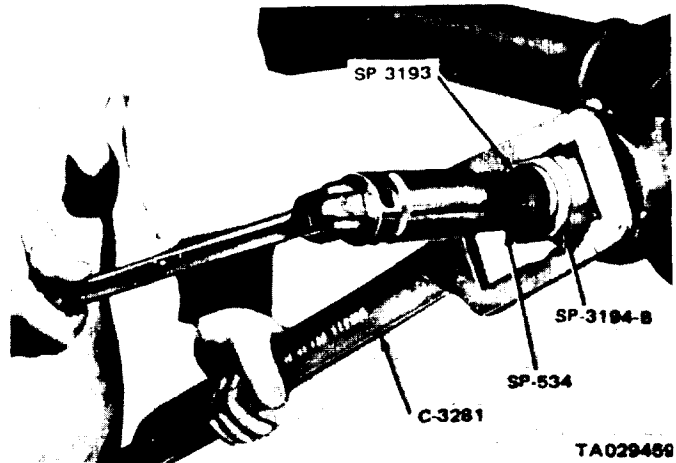

Figure 20-14. Seating Bearing Cups in Axle Housing.
- (3) Position the tool in the axle housing.
- (4) Install adapter SP-5585, the front bearing cone, and adapters SP-3194-B, SP-534, and SP-3193 on tool SP-5385 (figure 20-14).
- (5) Lubricate the drive pinion bearing cones.
- (6) Hold the compression sleeve with tool C-3281, and tighten the compression nut until the cups are seated. Refer to figure 20-14, above.